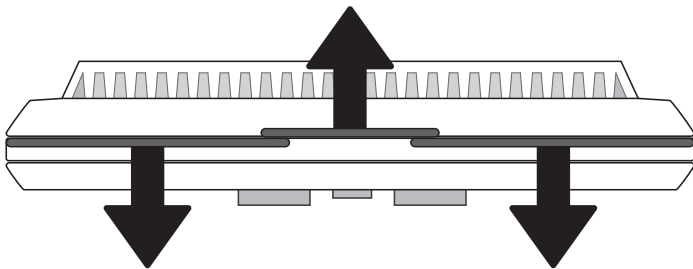

Figure 22.1
1. Separate the body of the thermostat from the mounting plate by gently pulling the two pieces apart (Figure 22.1).